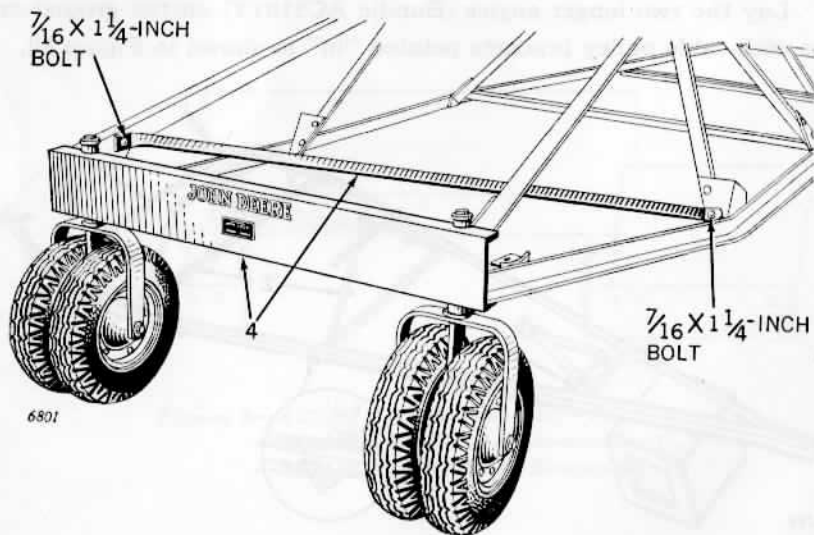

Figure 13—Rear Wheel Assembly and Diagonal Brace Installed
4. Install rear wheel assembly (Bundle AC3103Y). Diagonal brace can be installed at this time. This brace is in Bundle AC3102Y and requires two 7/16 x 1-1/4-inch bolts. Arrow points to brace placement (Figure 13).